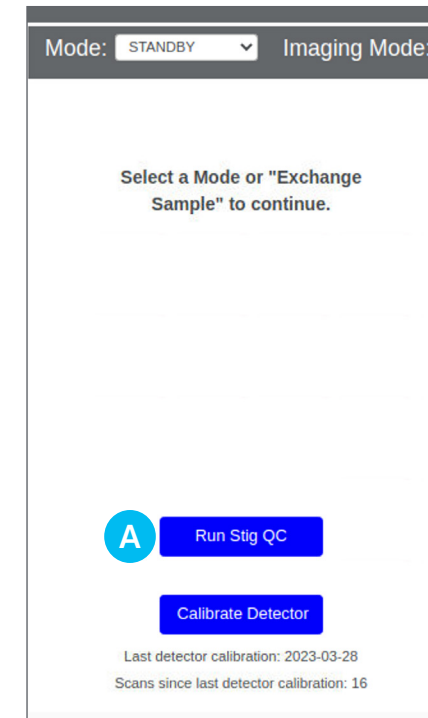

FIGURE 3.3 Starting Stig QC.
2. Click **Run Stig QC** (Figure 3.3, A).